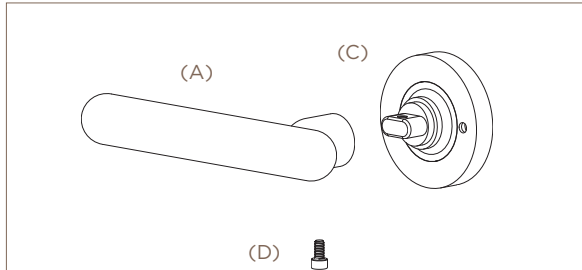

Figure 1
- 1.1 Unscrew the bolt (D) from lever (A) and remove the lever (A) from inner rose (C). Figure 1.